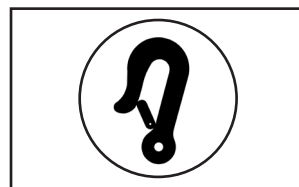

Figure 1
- The positions of the four securing points on the Roxx are shown with a hook symbol sticker (see Figure 1).